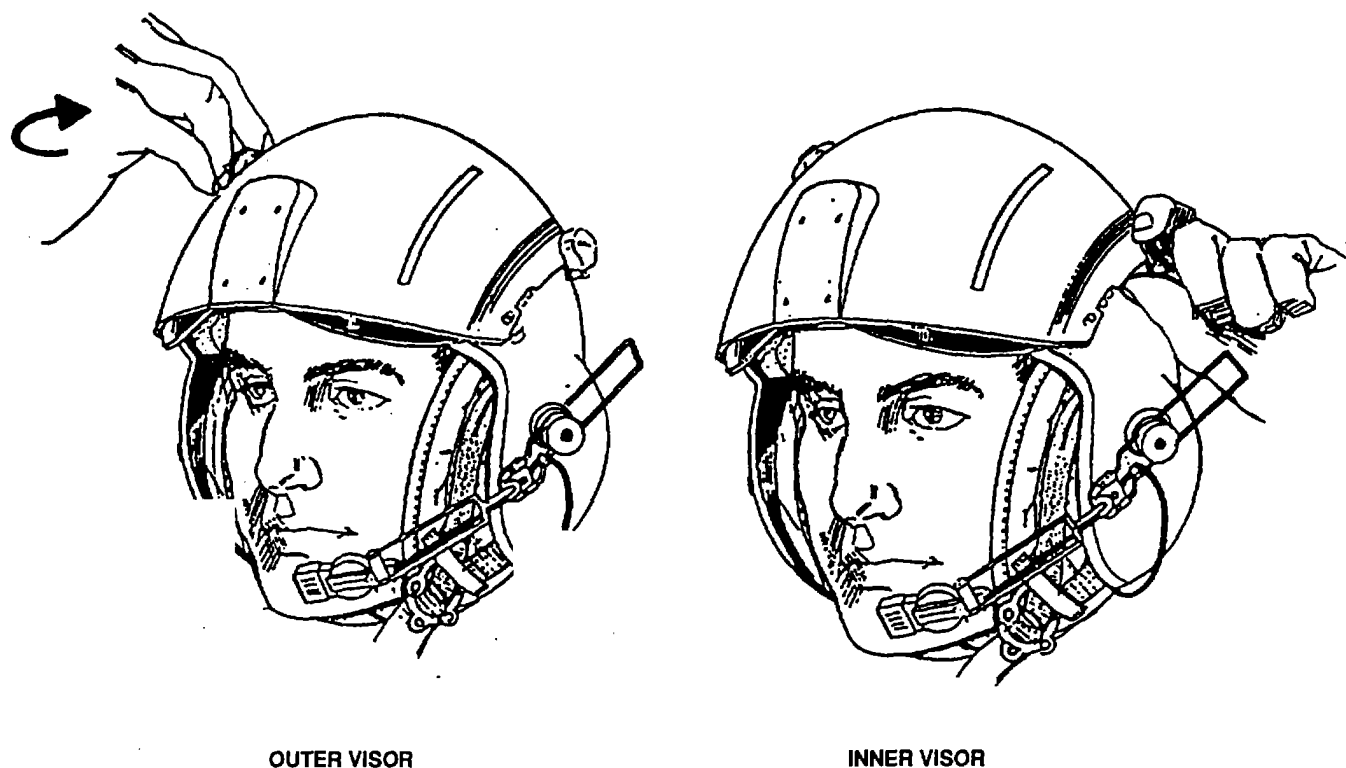

Figure 2-11. Raising/Lowering Visors
- (1) Rotate the outer lock counterclockwise as shown in Figure 2-11 until the visor can be moved.
- (2) Raise or lower the outer visor by sliding the lock up or down along the track.
- (3) Lock the visor in the desired position by rotating outer lock clockwise (as worn) until it can no longer be rotated.
- (1) Squeeze the actuator knob as shown in Figure 2-11.
- (2) While squeezing the knob, raise or lower the inner visor by sliding the knob along the track.
- (3) Lock the visor in the desired position by releasing the knob into the desired detent slot.